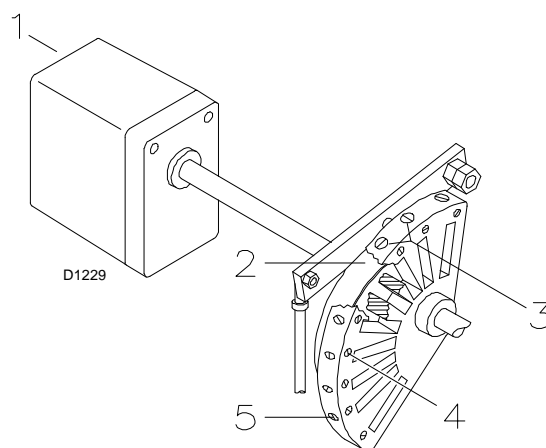
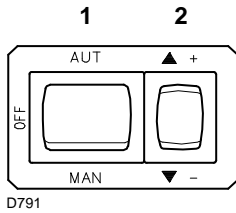
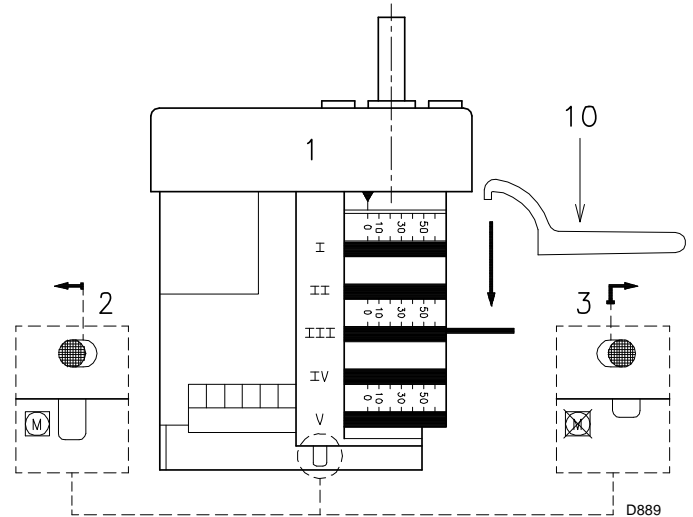

Fig. 29
Fig. 30
Fig. 31
Progressively adjust the end profile of cam 2)(Fig. 29) using adjustment screws 5).
Key (Fig. 29)
Press button 2)(Fig. 30) “output reduction” and keep it pressed until the servomotor has reached 20° (factory setting).
Progressively adjust the starting profile of cam 2)(Fig. 29) by turning the screws 3).
Press the switch 2)(Fig. 30) “output increase” a little so that the servomotor turns by about 15°. Adjust the screws until optimal combustion is obtained.
Switch the burner off with switch 1)(Fig. 30), at the OFF position, disengage the cam 2)(Fig. 29) from the servomotor, by pressing the button 3)(Fig. 31) and moving it to the right, and check more
Engage cam 2) to the servomotor again by moving button 2)(Fig. 31) to the left.
Finally fix the adjustment by turning screws 4)(Fig. 29).
In order to adjust cam III, especially for fine movements, key 10)(Fig. 31), held by a magnet under the servomotor, can be used.
Disengage the cam 2)(Fig. 29 at page 23) from the servomotor, by pressing and moving button 3)(Fig. 31 at page 24) towards the right, and turn it backwards and forwards by hand to make sure it moves freely.
Now engage the cam again by moving the button 2)(Fig. 31 at page 24) to the left.